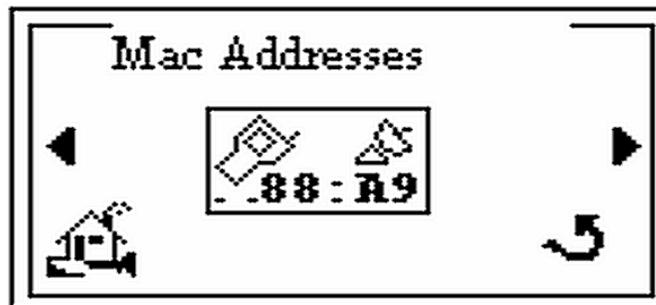

Figure 2-31 MAC Addresses Screen
6. Press the  and the *Mac Addresses* screen appears (Figure 2-31).
8. Press **Enter** and the *Mac Addresses* screen reappears (Figure 2-31).